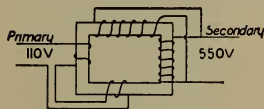

FIGURE 217.— 110 VOLTS TRANSFORMED TO 550 VOLTS.
3. If the primaries are connected in series and the secondaries in parallel, the voltage will be  $\frac{10}{2} \times 110 = 550$ . (Figure 217.)